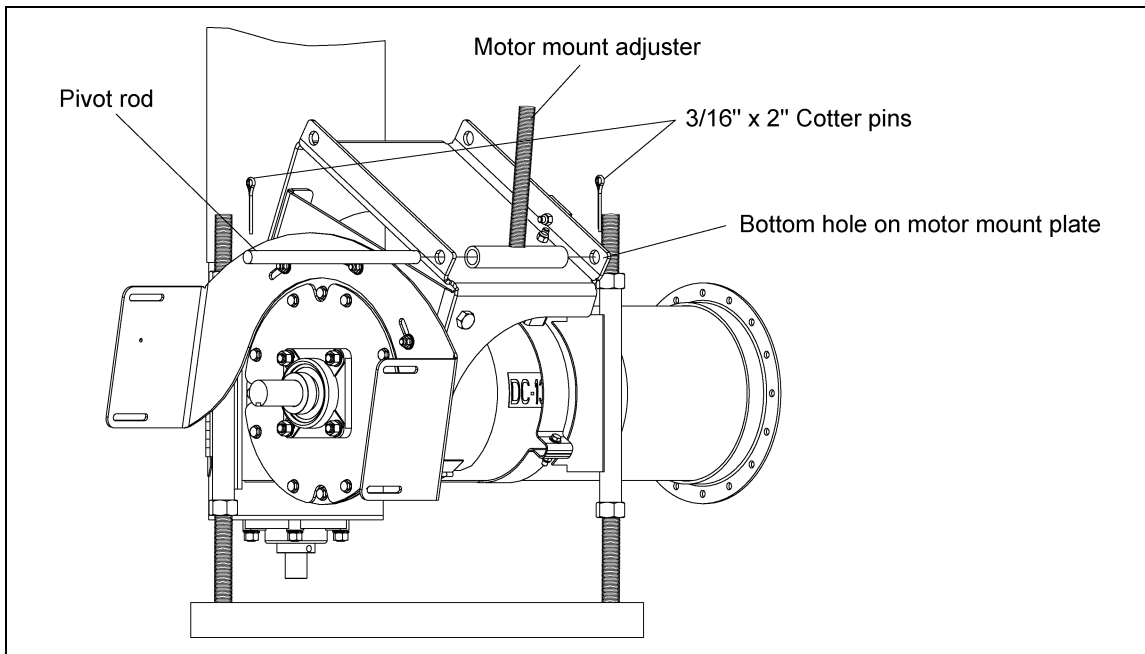

Figure 4P
(See Figure 4P.)
2. Insert the pivot rod through the front bottom pivot hole, the motor mount adjuster, and the back bottom pivot hole. Secure the pivot rod in place with two (2) 3/16" x 2" cotter pins. (See Figure 4P.)